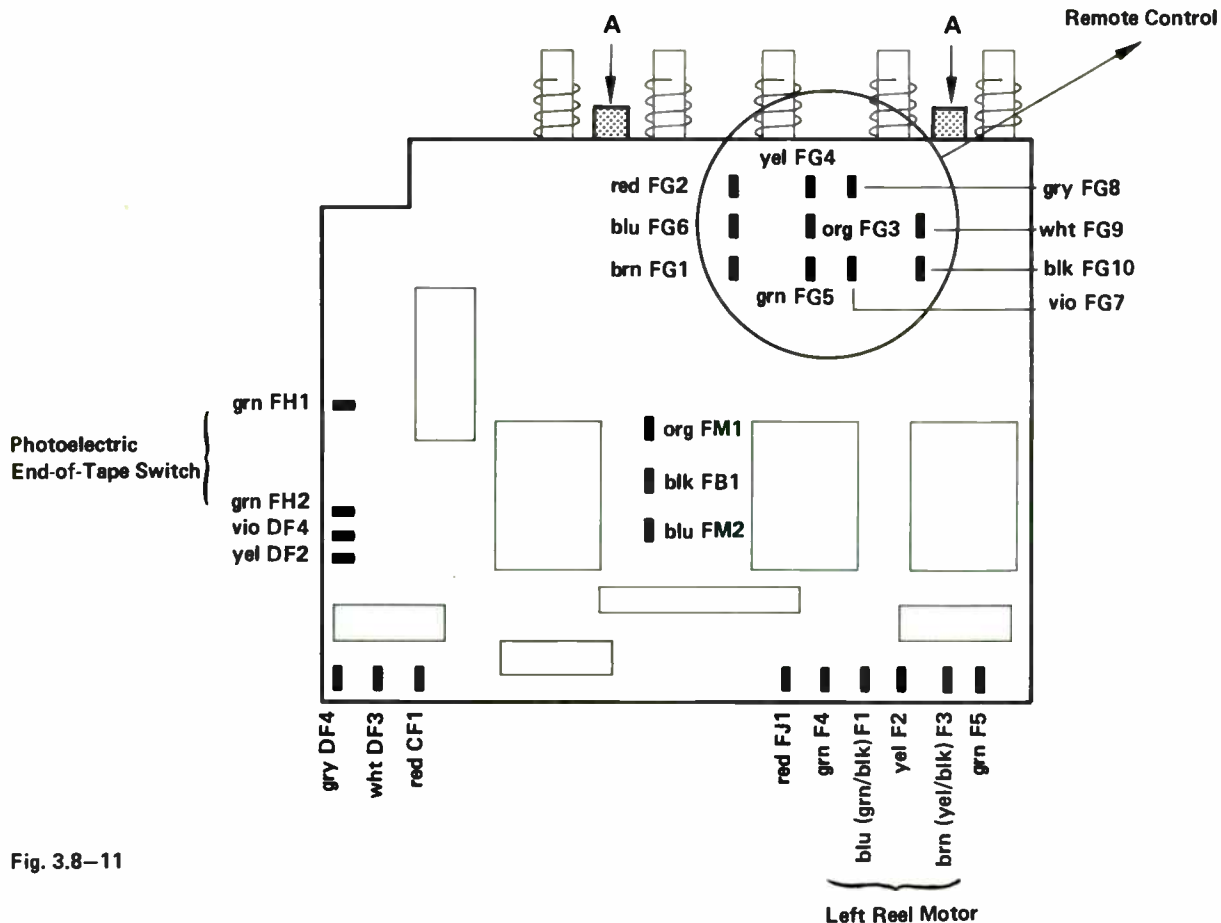

Fig. 3.8–11
- Undo screws A(fig. 3.8–11). Pull control board downward.